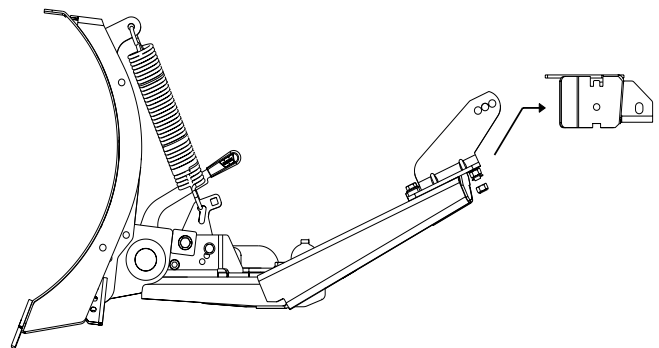

Figure 6
3. Turn off the vehicle and set the parking brake. Lift the plow mount flange end of the push tube assembly up to the plow mount on the vehicle. Insert the plow mount flange into the plow mount receiver. See Figure 6.